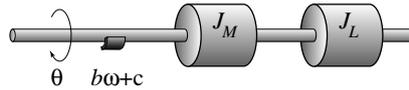

Figure 4.5: Motor Mechanical Diagram with open electrical circuit.
- (d) The mechanical time constant, and hence the total moment of inertia,  $J$ , can be determined by opening the motor circuit ( $i_a = 0$ ) while the motor is rotating and observing the resulting decay in speed. The situation is shown in Figure 4.5.